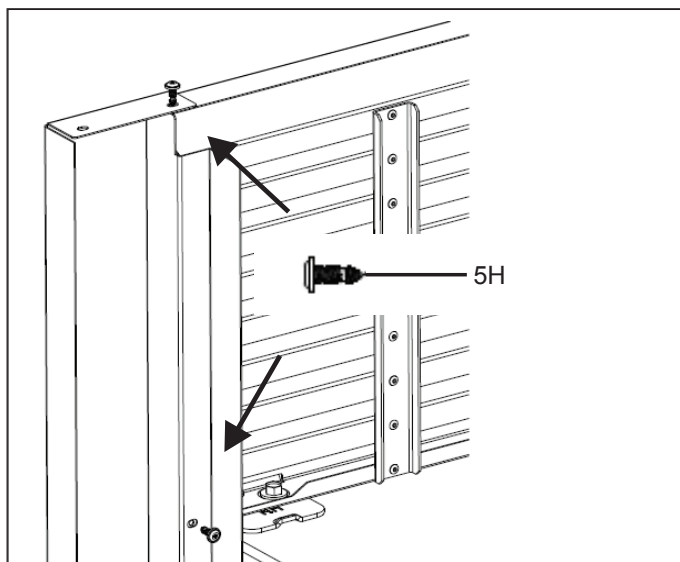

Figure 12
- b. Install RH side trim to top grille and attach with 2 screws using Phillips driver. (See Figure 12.)